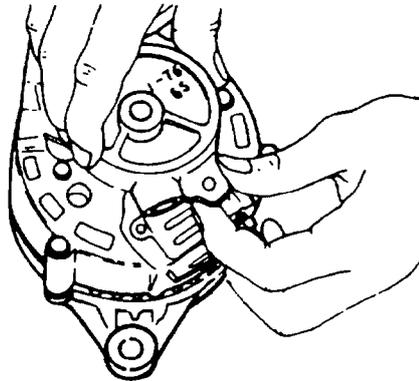

Figure 307 Installing the Vacuum Pump
- (4) Position a new O ring on the alternator pump mounting face.
- (5) Align the rotor bore and the centre plate hole and install the pump on the alternator. If necessary turn the housing to align with the holes in the alternator rear cover (Figure 307), insert the retaining bolts and tighten them securely.